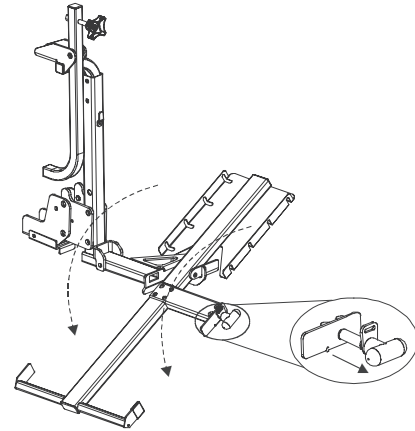

Figure 4-7
3. Tilt the platform to the ground. *See Figure 4-7.*